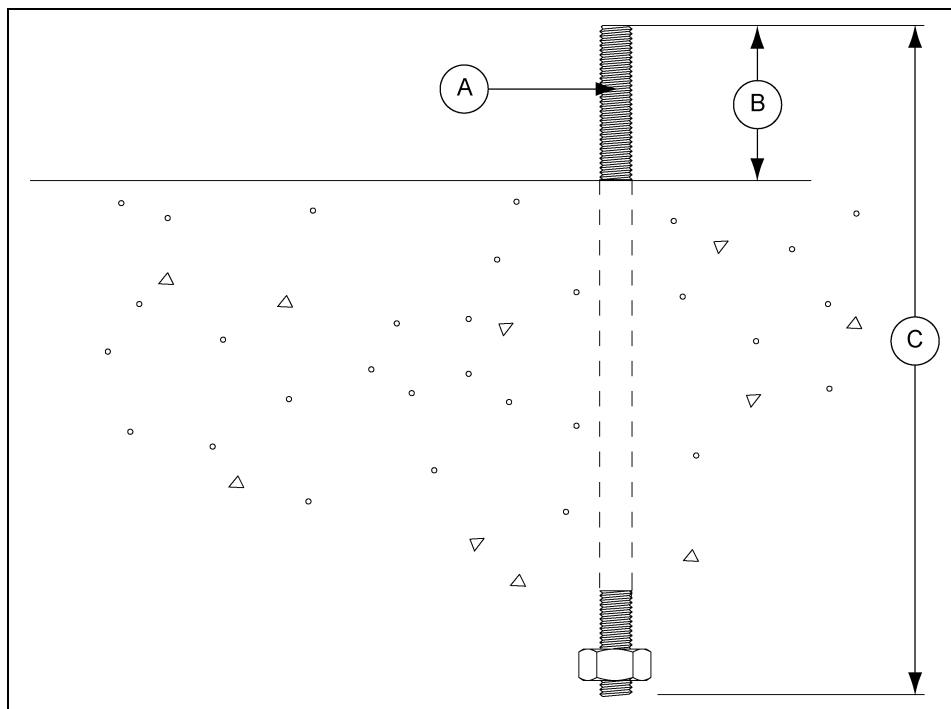

Figure 1A Anchor Bolt Example (3/4" Diameter Anchor Bolt Shown)
1. 3/4" Diameter anchor bolt (A) is the minimum allowed, 1" diameter anchor bolt (A) is the minimum with sidedraw flume system.
2. Exposed anchor bolt thread height (B) is 5" (12.7 cm).
3. Overall anchor bolt length (C) for 3/4" and 1" diameter anchor bolt is 18" (45.72 cm). *(See Figure 1A.)*